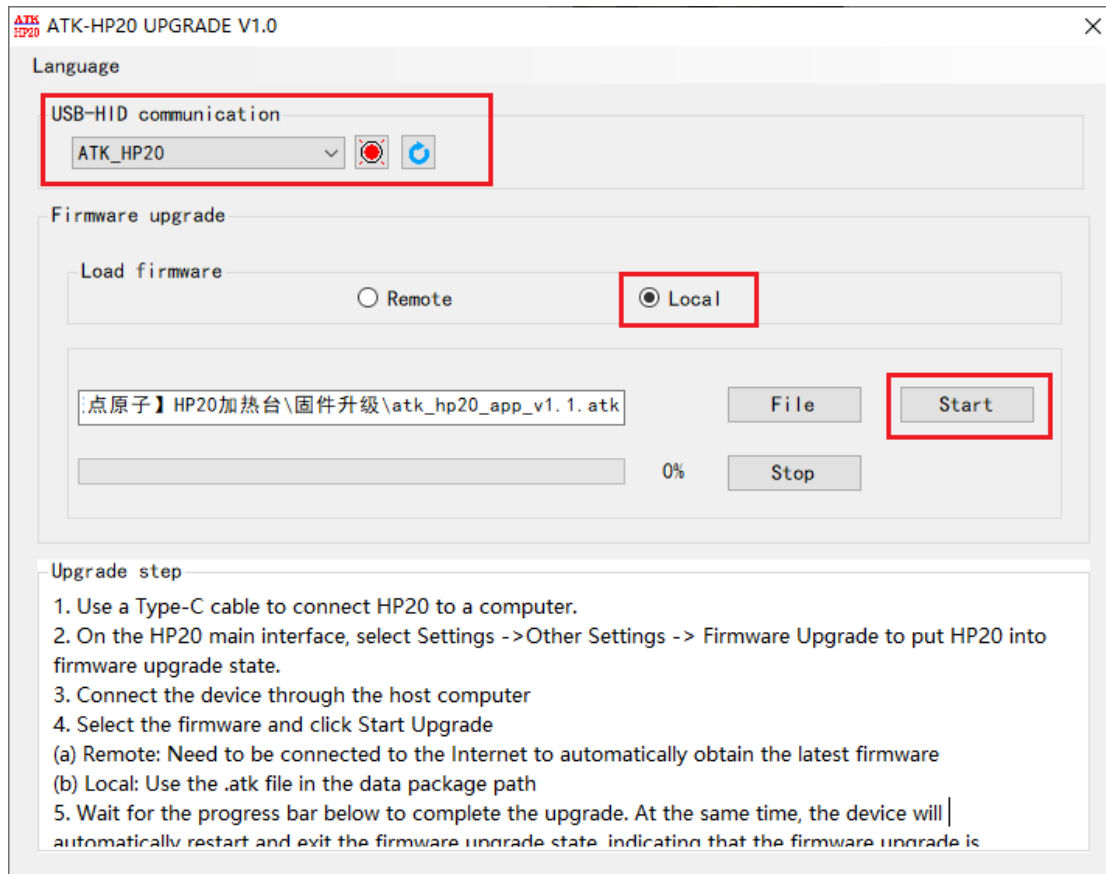

Figure 5-4 Schematic diagram of firmware upgrade operation
Step 3: Select the remote firmware provider (computer needs internet connection), click "Start Upgrade," and wait for the upgrade to complete and automatically redirect to the app. See Figure 5-4 below for instructions: